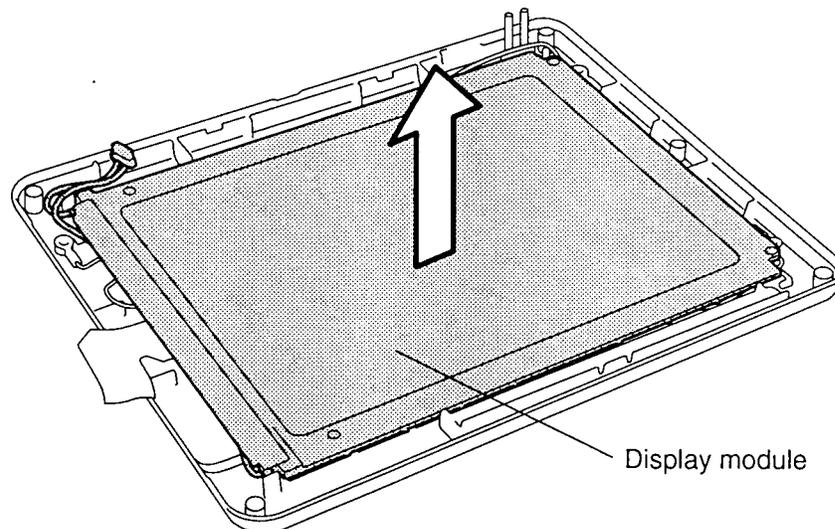

Figure 4-23 Removing the T200 Display Module
To remove the T200's display module, follow the steps below and refer to Figure 4-23.
3. Remove the display module from the display mask (Figure 4-23).
To install the T200's display module, follow the steps below and refer to Figure 4-23.
1. Place the display module on the display mask (Figure 4-23).